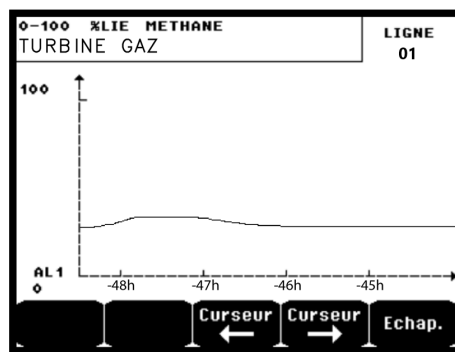

Figure 18: Example of a curve display screen
H.	Function keys. <ul style="list-style-type: none"> ■ Menu: Display of main menu See paragraph "Main menu" on page 25. • ■ Curve: Display of the measurement curves of the last 10 days (Figure 18). The → and ← keys allow cursor displacement through the time scale. The vertical dotted line displays the concentration and time stamp of the point being considered. Escape: return to display of values.